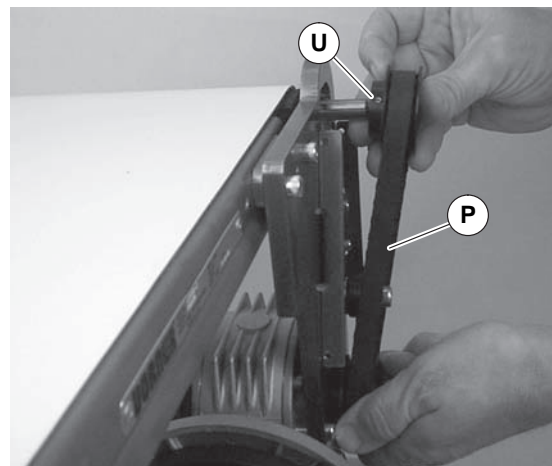

Figure 19
3. Remove timing belt (Figure 19, item P).
If timing belt does not slide over pulley flange, loosen driven pulley set screws (Figure 19, item U) and remove pulley with belt (P). For re-installation, see steps 7 and 8 on page 10.